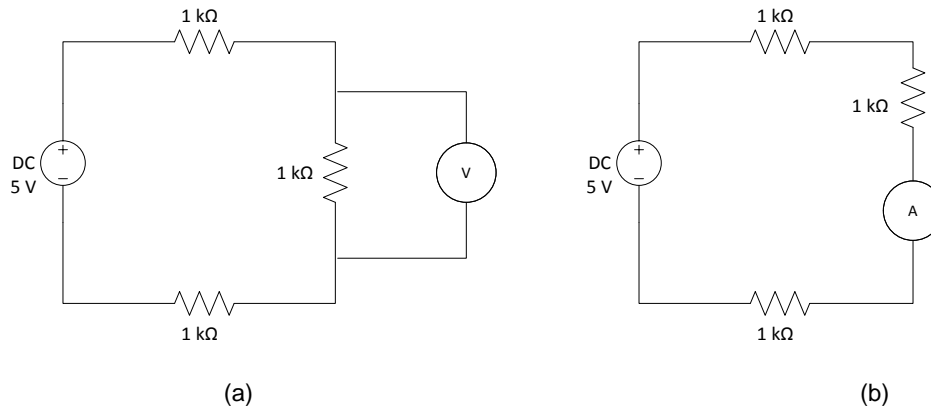

Figure 5 – (a) Configuration to measure voltage across an element; (b) configuration to measure current through an element.
1. To measure the voltage across an element, place the DMM leads in parallel with the element (see Figure 5(a) for an example). Be sure to have the positive lead of the DMM plugged into the terminal to measure voltage.
1. To measure the current through an element, place the DMM in series with the element (see Figure 5(b) for an example). Be sure to have the positive lead of the DMM plugged into the terminal to current (in general, you will use the terminal rated for smaller currents [1.2 A vs. 12 A]).